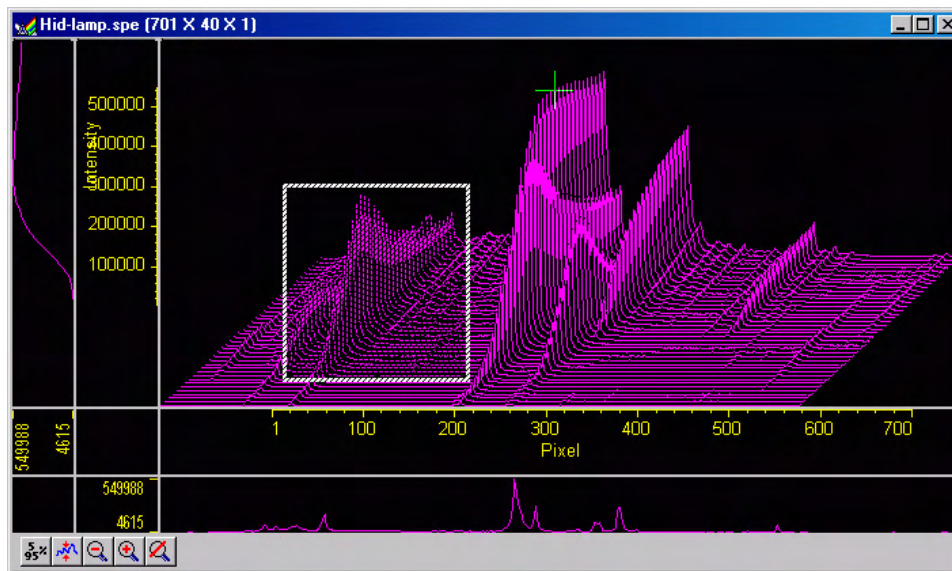

Figure 85. Hid-lamp.spe 3D graph with region selected for viewing
1. Using the mouse, drag a rectangular region on the image as shown in Figure 85.